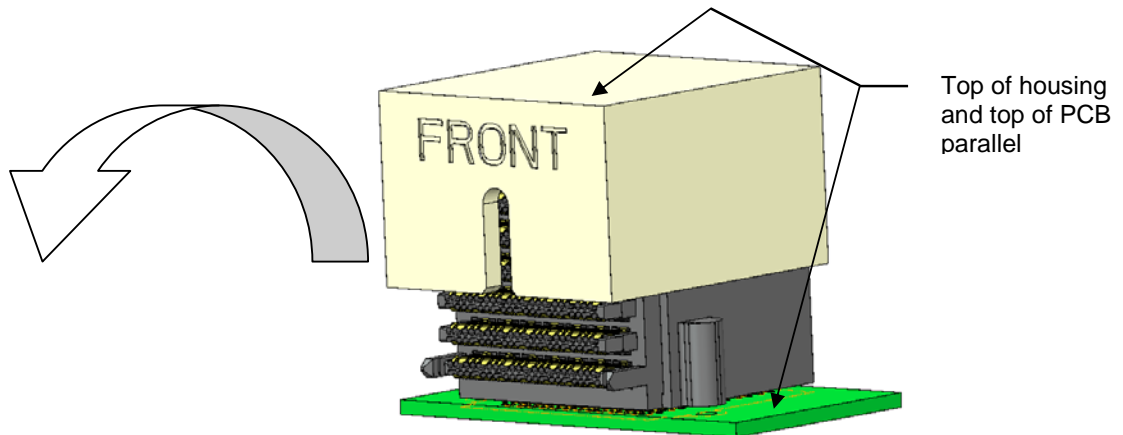

Figure 39: Connector Rotated Parallel to the Top of PCB and EONs Aligned
- Once the last row of EON tips have been inserted, rotate the connector towards the front edge of board. This will insert the rest of the EON tips into their corresponding vias. With the EON tips all started, the top surface of the insertion tool should be parallel with the top surface of PCB. Refer to figure 39.